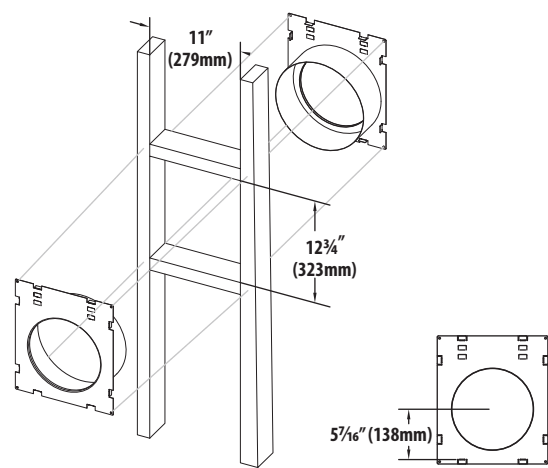

Figure 3.5, Vent Termination Locations
- Rigid pipe dimensions in Figure 3.5 reflect Simpson Duravent 5" x 8" coaxial pipe. Other manufacturers product dimensions may vary.
- Flexible pipe framing dimensions in Figure 3.5 reflect Kozy Heat #800 Series Flexible Vent System. Flexible pipe may be used for approved venting configurations by vent manufacturers listed in Section 7.1 Approved Vent Systems on page 30.